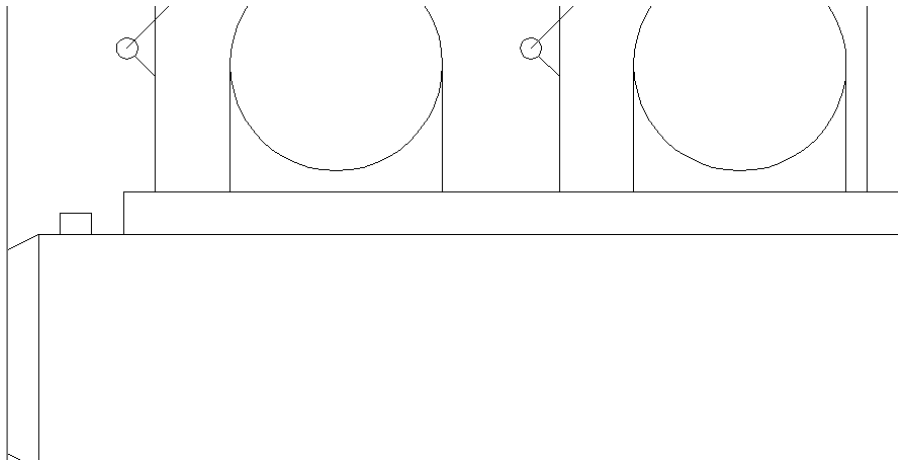

Figure 8-3: The final view. Your view may be somewhat different.
5. Click the right arrow on the horizontal scroll bar three times. The drawing moves to the left slightly each time. Your drawing should look something like Figure 8-3. You may have a different view if you chose slightly different pan points.